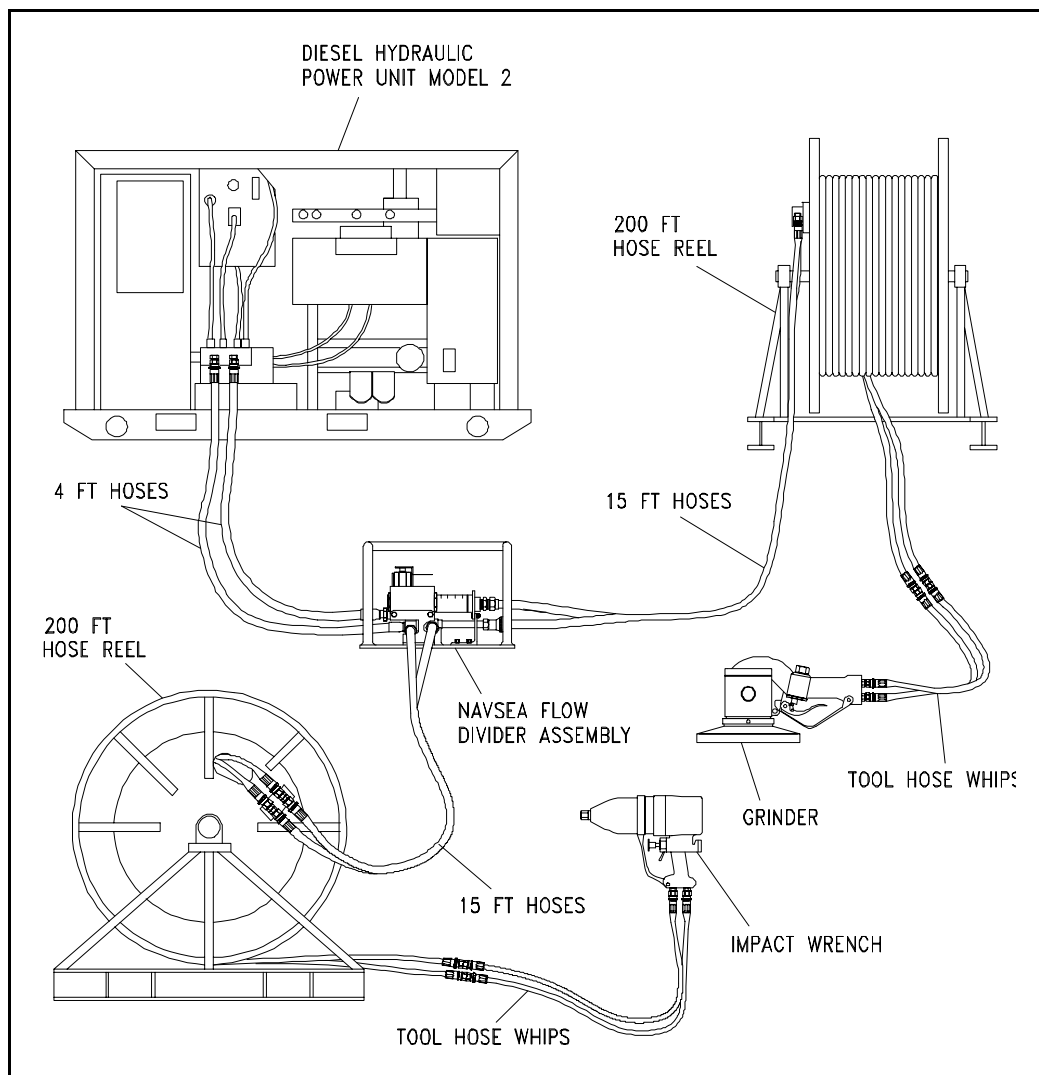

Figure F-1. Hydraulic Flow Divider Assembly Setup.
The NAVSEA hydraulic flow divider assembly is used to divide the output flow of hydraulic fluid from a Hydraulic Power Unit (HPU) to operate two hydraulic power tools at the same time. The hydraulic flow divider assembly consists of an adjustable flow divider (DANFOSS Model 2V21-L8-6-6-40S), flow meter (Hedland Model 701-015), return and supply hose quick-connect couplings, and 4-foot return and supply hose assemblies. The flow divider is mounted in a tubular frame. Figure F-1 illustrates a typical flow divider setup, including a flow divider assembly, two hydraulic hose reels, two hydraulic power tools, and a diesel Hydraulic Power Unit Model 2.
- b. Position flow divider and other components in close proximity to each other, relative to length of interconnecting hoses. See Figure F-1.